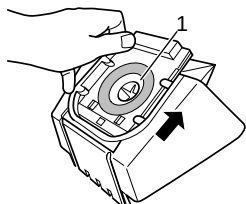

Fig.19
3. Pull the dust bag (Fig. 19/1) up out of the dust bag holder.